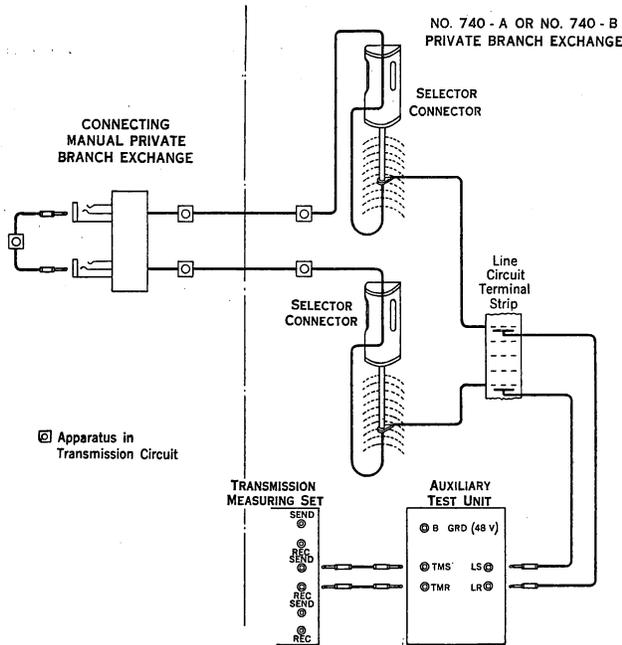

Figure 6
2.86 Figure 6 shows schematically the connections for the test.